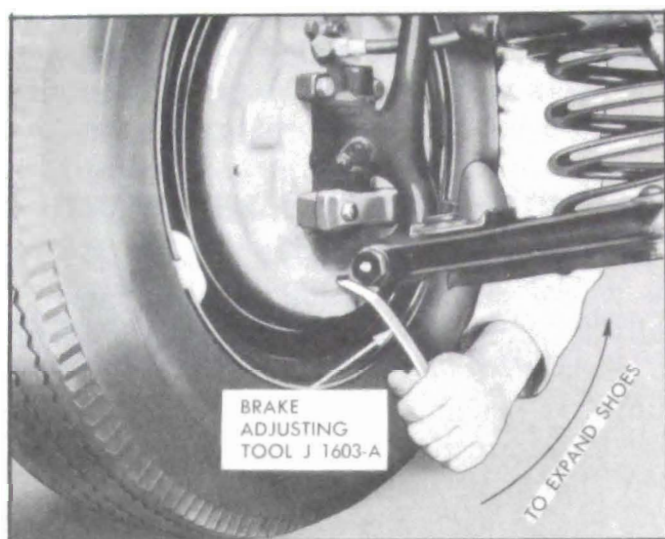

Figure 8-10—Expanding Brake Shoes with Tool J 1603-A
6. Remove adjusting hole covers from brake backing plates. Using Adjusting Tool J 1603-A to turn brake adjusting screw, expand brake shoes at each wheel until the wheel can just be turned by hand. Moving outer end of tool upward toward center of wheel expands the shoes. See figure 8-10. The drag should be equal at all wheels.
(b) Using Adjusting Tool J 1603-A (fig. 8-10), turn brake adjusting screw to expand brake shoes until wheel can just be turned with two hands.